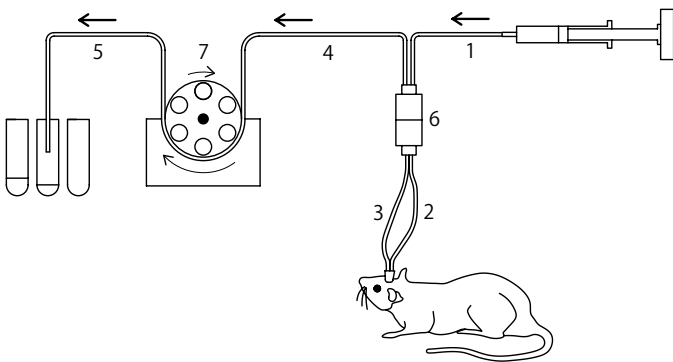

Fig. 3 - Tubing Diagram
Connect all tubing as shown in Figure 3. Table 1 shows the model names of tubing, size, material and approximately internal volume of each tube shown in Fig.3. The tubing between the probe and peristaltic pull pump has to be 0.25 mm ID to allow smooth withdrawal of the sample. Tubing length can vary depending upon your exact setup. Please try to minimize the length of tubing used between the probe and the fraction collector.
Both the syringe and peristaltic pumps should still be stopped and flow rate settings of the syringe pump is at 10 μ L/min and ERP-10 is showing "0200". Remove the bypass where the probe will be placed and connect the inlet and outlet. Start the syringe pump and start the peristaltic pump immediately after confirming a little leak from the vent holes. Pay attention there might be a lag time on the syringe pump caused by a mechanical play, see section 6. Confirm that an air segment no larger than approx. 5 cm (= 2 inch, 2.5 μ L) has entered the outlet tubing. (see #3, #4 or #5 on Fig. 3).
- Clogging happens mostly on the tubing #3 or outlet of the probe after the vent. To fix, please disconnect the swivel and replace to a 1 mL syringe containing water at the tubing #3 out (see Fig. 3 and Fig 4). Then infuse water toward the probe via tubing #3. The flush will come out from the vent and you can use water.